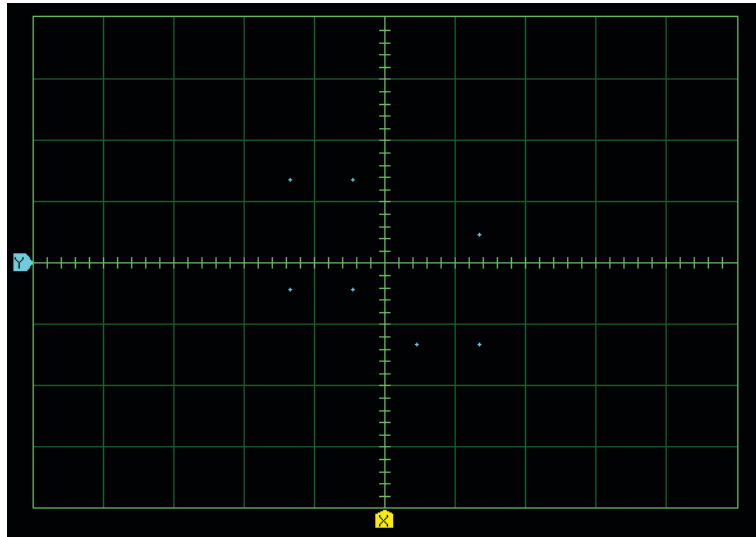

Figure 24. QAM constellation (7 points shown).
23. Without moving the Oscilloscope probes, put the Oscilloscope in the X-Y mode. Figure 24 shows an example of what you should observe.